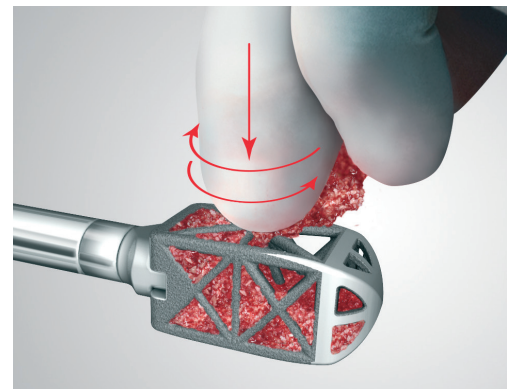

Figure 9
- ▲ Pack the implant with autologous and/or allogenic bone graft. For best results, cut or morselize the autologous bone into 1–2mm sized particles. Place the morselized bone into the top or bottom web structure (top and bottom are interchangeable). In a downward, circular motion, massage the bone particles into the implant (Fig. 9).